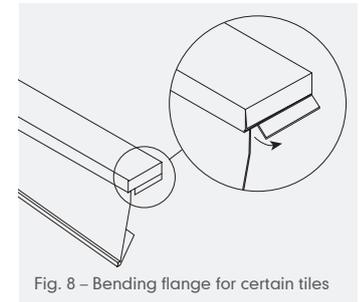

Fig. 8 – Bending flange for certain tiles
- When installing the dry verge in conjunction with medium format (15" x 9" - for instance, Ludlow Plus) tiles the leading flange should be bent out slightly to allow the verge to engage at a lower level and accommodate tiles with a thinner leading edge. The dry verge flange will need to be bent out as shown in Fig. 8.